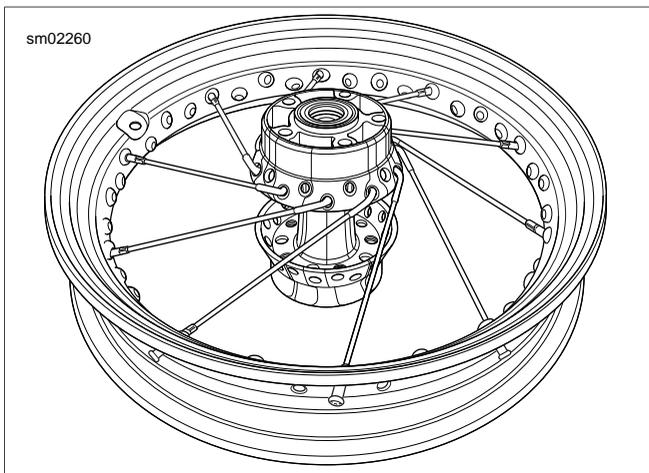

Figure 2-18. Brake Side Up: Bottom Row of Spokes Laced
4. See Figure 2-18. Install remaining lower row spokes, one in every fourth hole.